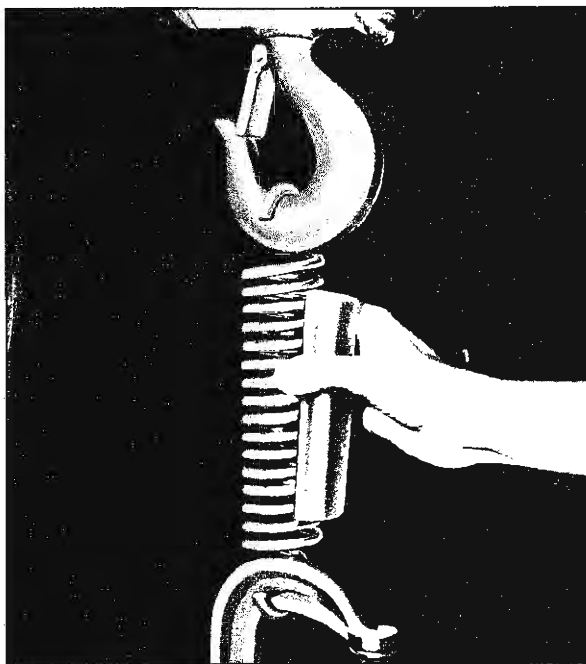

Fig. 9—Installing J-9559 in New Spring
2. Hook one end of spring in clamp and the other end in hook of chain hoist, "cherry-picker" or equivalent, as shown in Figure 9.